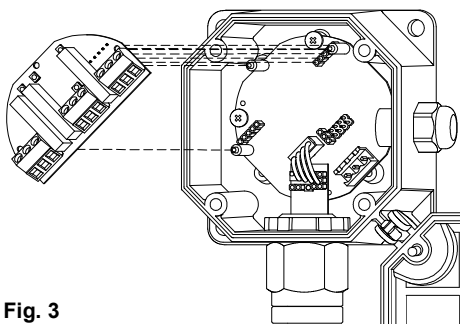
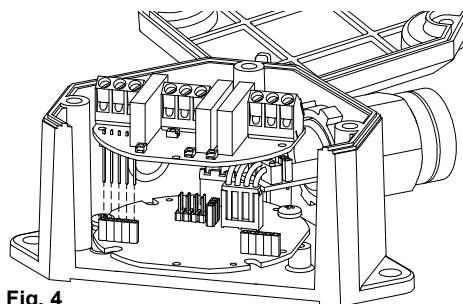

Fig. 3
Fig. 4
4. Insert the relay interface in the transmitter as shown in Fig. 3, taking care that the three turrets, previously inserted in the transmitter, correspond to the holes on the interface board and that the interface pin strip corresponds to the connector on the basic transmitter board, as shown in Fig. 4.